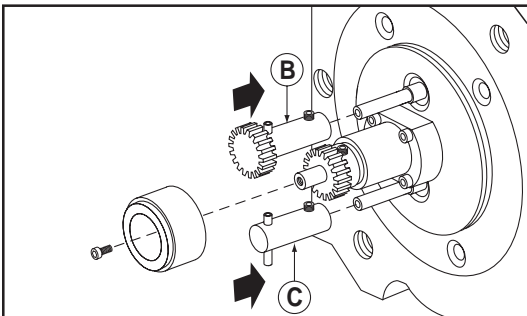

Fig. 3-15 Replacing Oil Slinger (B) to top shaft & Oil Slinger Hub (C) to bottom
Step 5: Install oil slinger (B) that had been removed from bottom shaft in step 3, on opposite impeller shaft (top), sliding it towards the meter body until the gears properly engage. (Fig. 3-15) Tighten set screw to 15 in-oz.
Step 6: Install oil slinger hub (C) that had been removed from top shaft in step 4, on opposite impeller shaft (bottom). Tighten set screw to 15 in-oz. (Fig. 3-15)